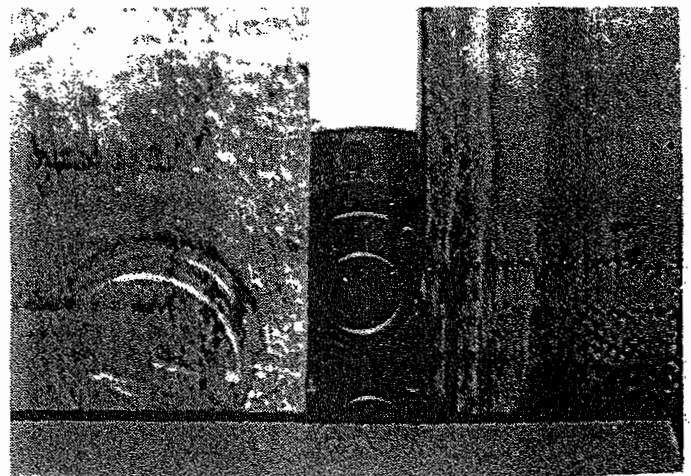

Fig. 3
6. If an arbor press is available, use it to install the new seal in the flange. If a press is not available, place the flange in a machinist vise with the seal bore facing the movable jaw. Arrange blocks of wood on each side of the protruding ends of the bearings at the side next to the fixed jaw. This is to prevent pressing on the bearings while the seal is being pressed in. (Fig. 3)